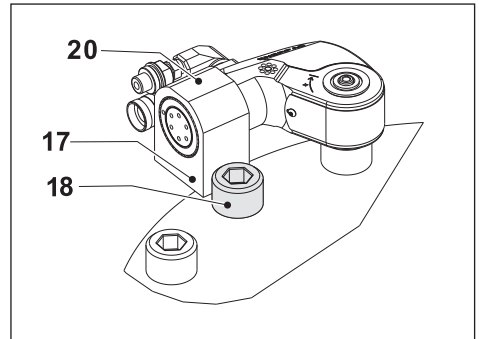
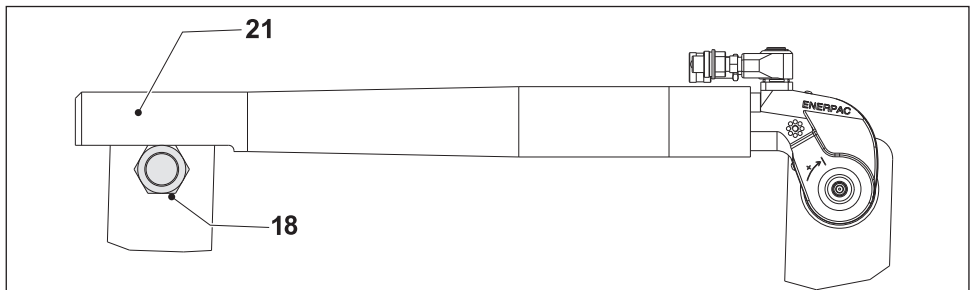

Fig. 11
Fig. 12
4.3.3 Using a Short Reaction Arm (Fig. 11)
- Position the foot (17) of the SRA Series short reaction arm (20) against a suitable reaction point (18). The reaction point will counteract the force caused by operating the tool.
4.3.4 Using a Reaction Tube Extension (Fig. 12)
- Position the RTE Series reaction tube extension (21) against a suitable reaction point (18). The reaction point will